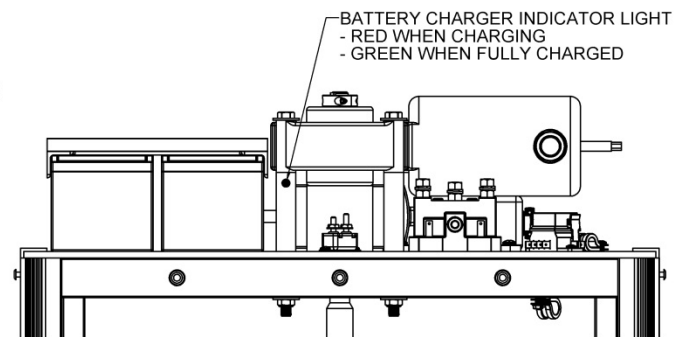
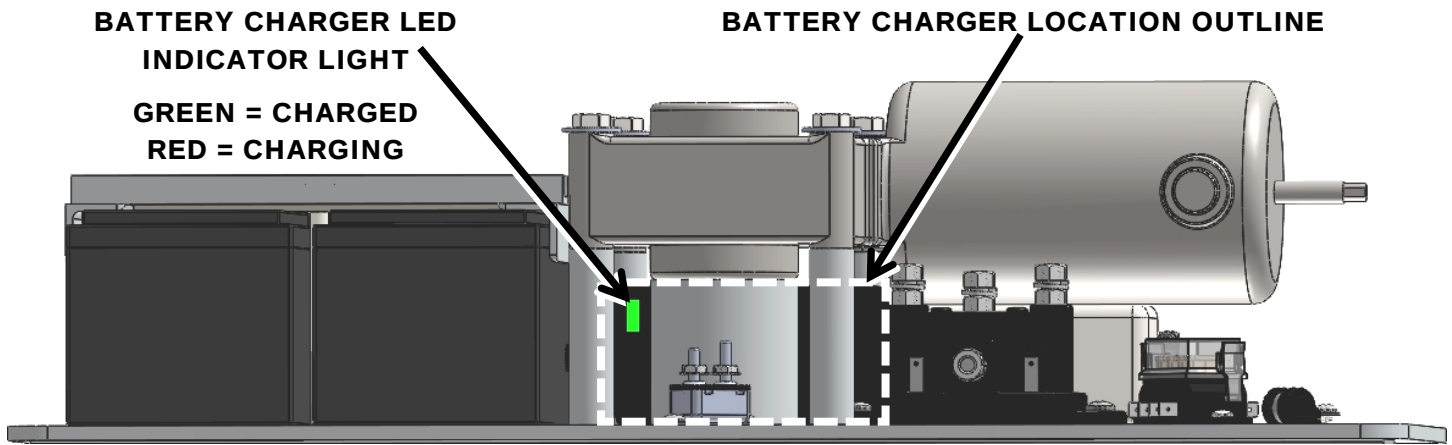

FIG. 4.10
FIG. 4.10A
12. Plug VPL into AC power, verify charger LED is illuminated. (FIG. 4.10 and FIG. 4.10A.)